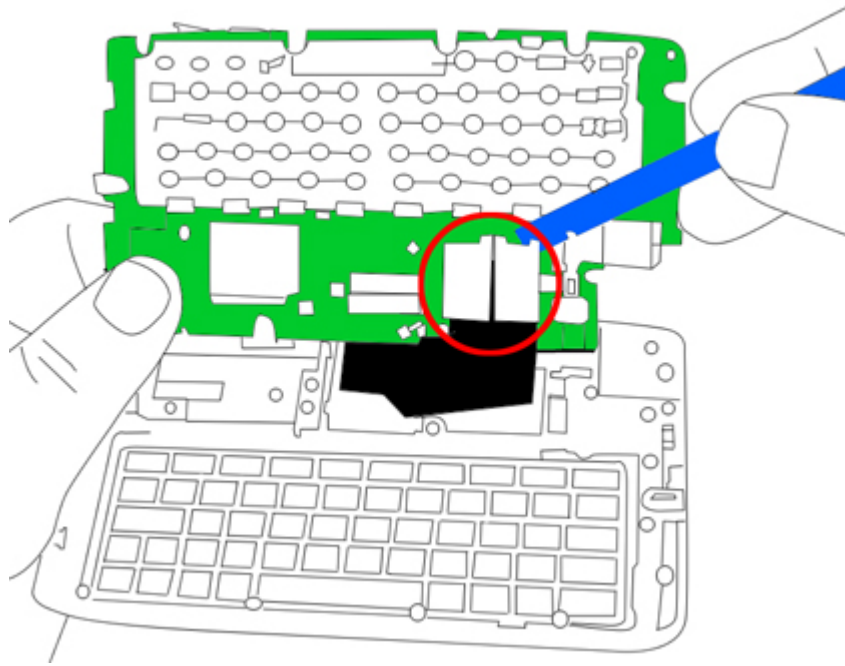

Figure 4
- You will now have access to the motherboard. There will be two (2) "pop" connectors that will need to be disconnected as shown in Figure 4.